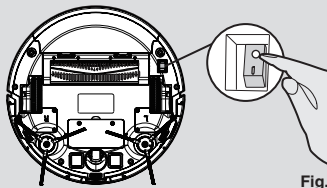

Fig. 9
Switch on the vacuum robot with the On/Off switch on the bottom ( I ). [Fig. 9] Set it down in front of the charging station.
1. Press the ON/OFF power switch on the bottom robot. [Fig. 9]